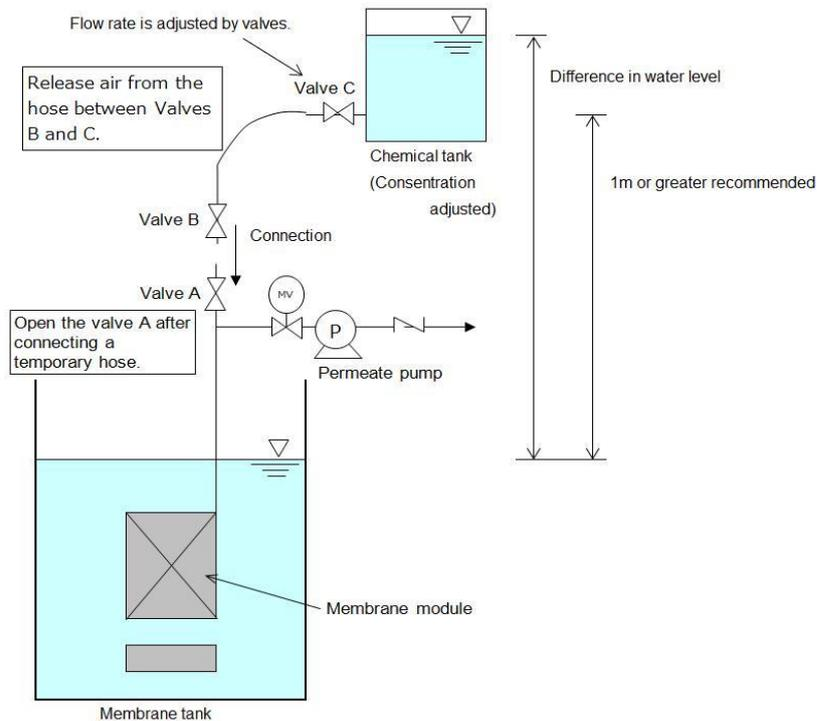

Figure 3-3 Schematic Diagram of Chemical Cleaning Equipment Using Temporary Tanks and Pipes
With a small module, it is possible to inject chemicals by preparing a chemical tank in addition and connecting it to the filtration line, taking advantage of the difference in water level between the membrane tank and the chemical tank (See Figure 3-3). It is recommended to make the difference in water level 1 m or greater.
- In a small modules, if chemical solution is fed by using temporary tanks and hoses using a pump or a difference in water level Figure 3-3, release air from the hose connecting valve B and valve C before connecting it to the membrane tank. If the hose is connected to the valve on the module side (valve A) after opening it, liquid in pipes will drain down and cause air to flow in. Therefore, open the valve on the module side (valve A) after connecting the hose to it. Adjust the flow rate by adjusting how open the valves are.